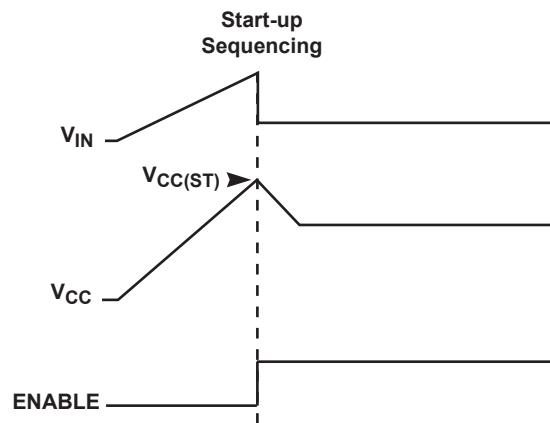

Figure 9.7 : Start-up Sequencing Diagram
Prior to start-up the V_{IN} pin charges up the V_{CC} capacitor through a diode between V_{IN} and V_{CC}. When V_{CC} is fully charged to a voltage higher than the start-up threshold V_{CC(ST)}, the ENABLE signal becomes active and enables the control logic, shown by Figure 9.7. When the control logic is enabled, the controller enters normal operation mode. During the first 3 half AC cycles, OUTPUT(TR) keeps high. After the dimmer type and AC line period are measured, the constant current stage is enabled and the output voltage starts to ramp up. When the output voltage is above the forward voltage of the LED, the controller begins to operate in constant current mode.